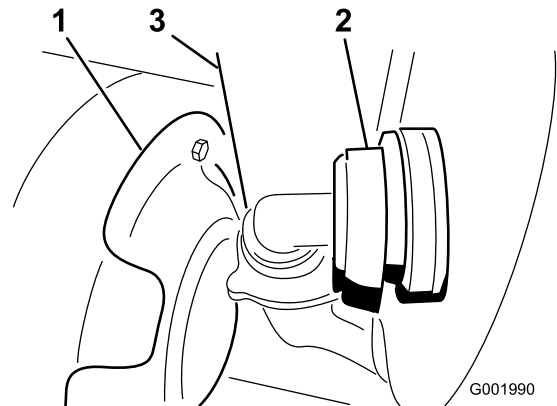

Figure 58
3. Disconnect the hose located on the lower-front face of the tank (Figure 58).
Note: You may need to push the heat shield (Figure 58) back as you remove the cover.